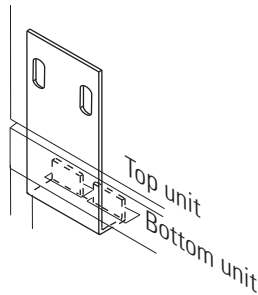

Figure 1-7. Bracket into Slot
5. Insert the stacking brackets into the slots at the back of the stacked units as shown in Figure 1-7.